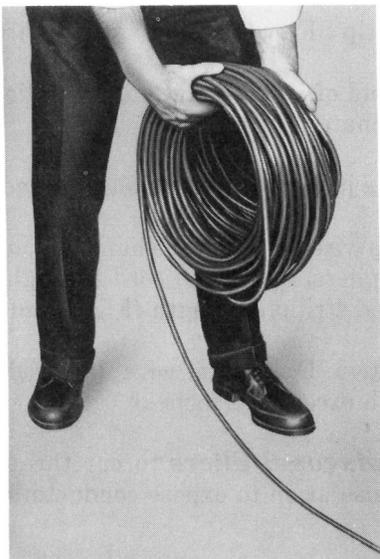

Fig. 2—Paying Out Cable
- 2.02 To pay out station cable, remove cable from coil by paying it off from outside of coil (Fig. 2).